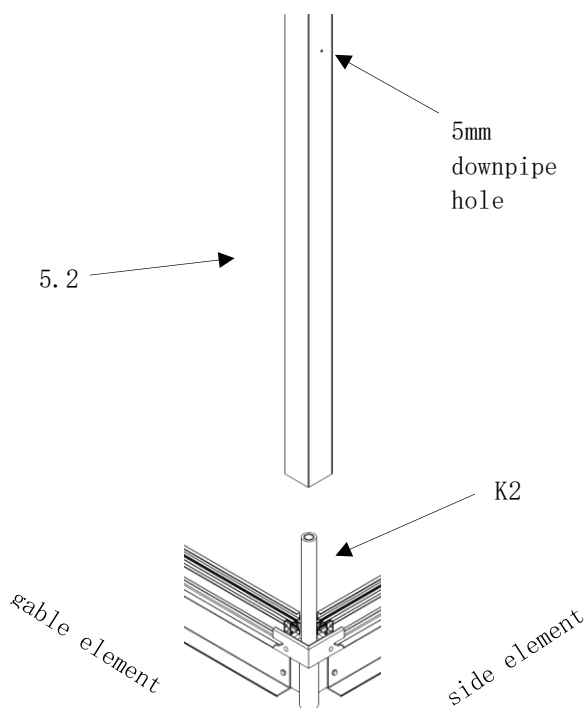

fig. 14
- the corner profiles (point 5.2) are pushed onto the four PVC pipes (item K2). (*fig. 14*)